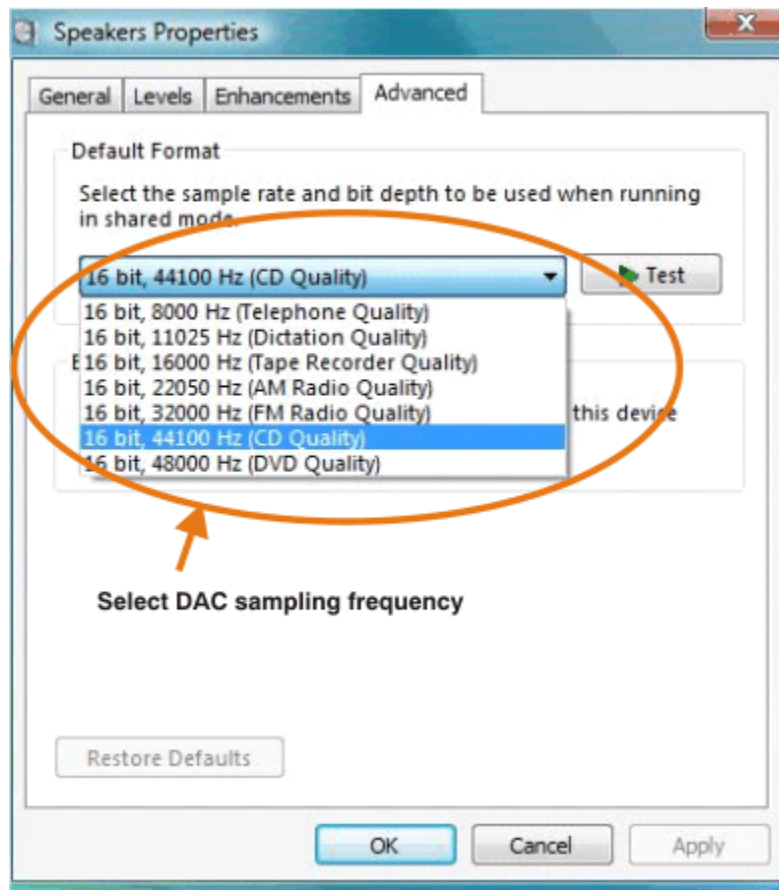

Figure 3-5. Speakers Properties—Advanced Tab (Windows)
2. Open the speaker properties of the USB audio codec from the Playback options and select the *Advanced* tab, as Figure 3-5 illustrates.